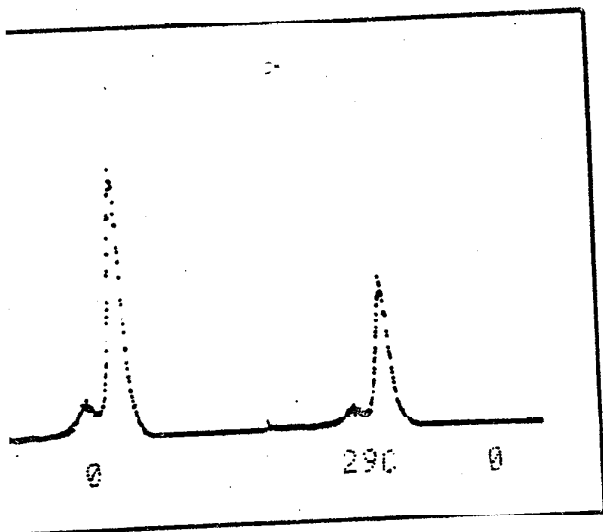

Figure 6-4a
- H. Set the Memory Control to FULL. Two identical spectra, differing only in amplitude (activity) will be seen on the CRT. See Figure 6-4a.